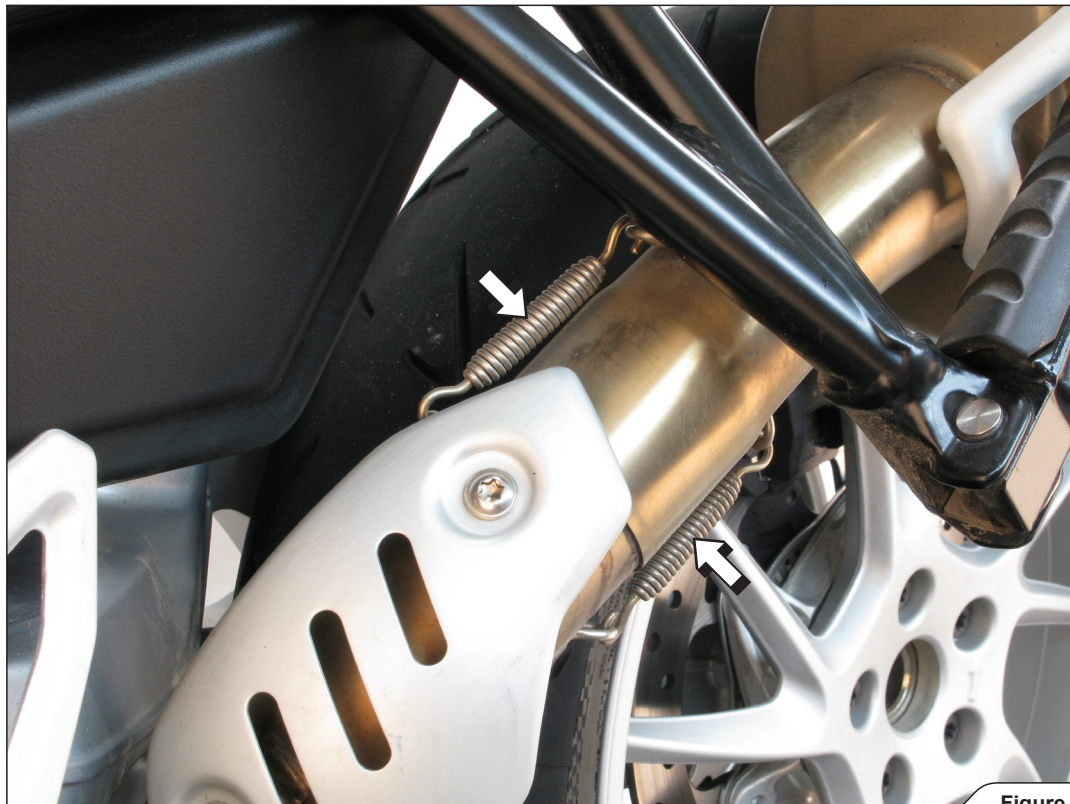

Figure 1
2. Undo the marked muffler's inlet springs (**Figure 1**).